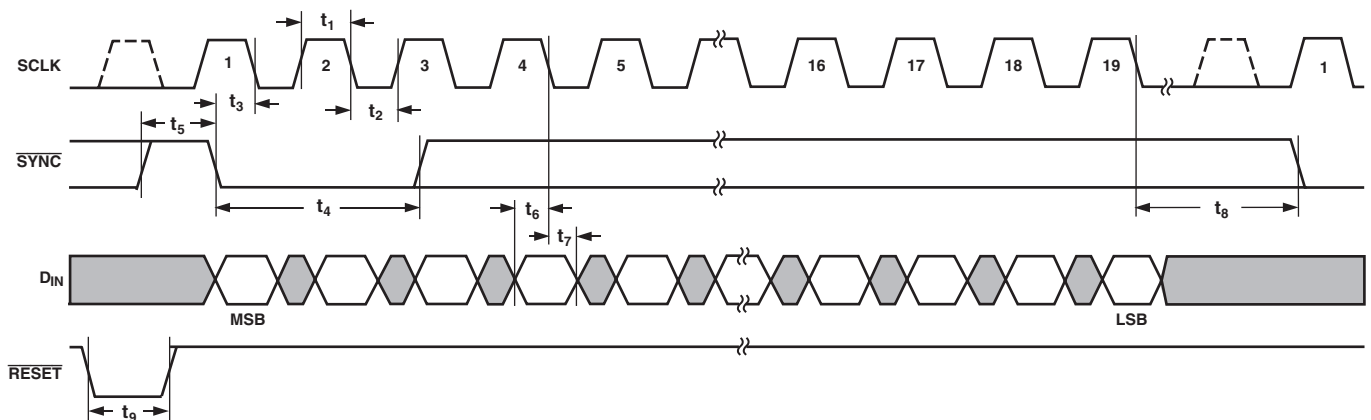

Figure 1. Serial Interface Timing Diagram
- ¹See Timing Diagrams in Figure 1.